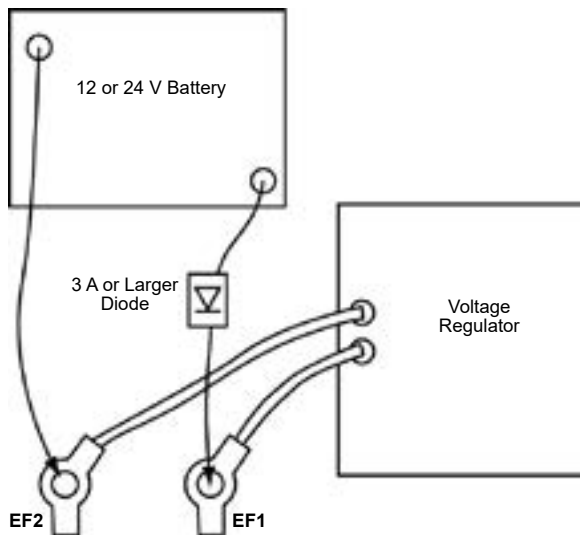

Figure 15 Field Flashing
The direct current necessary to magnetize the revolving field is obtained from the exciter. Upon starting the generator, current and voltage is induced into the exciter by the magnetic lines of force set up by residual magnetism of the exciter field poles. Residual magnetism of the exciter field poles may be lost or weakened by a momentary reversal of the field connection, a strong neutralizing magnetic field from any source, or non-operation for a long time. If the generator fails to generate voltage after it has come up to rated speed, it may be necessary to restore residual magnetism. See Figure 15.
6. Start the generator, and check for voltage build up. Reflash if the generator output voltage does not build up, or flash with the generator running, the field coil wires connected to the regulator, and a 3-amp or larger diode off the positive terminal of the battery per Figure 15.